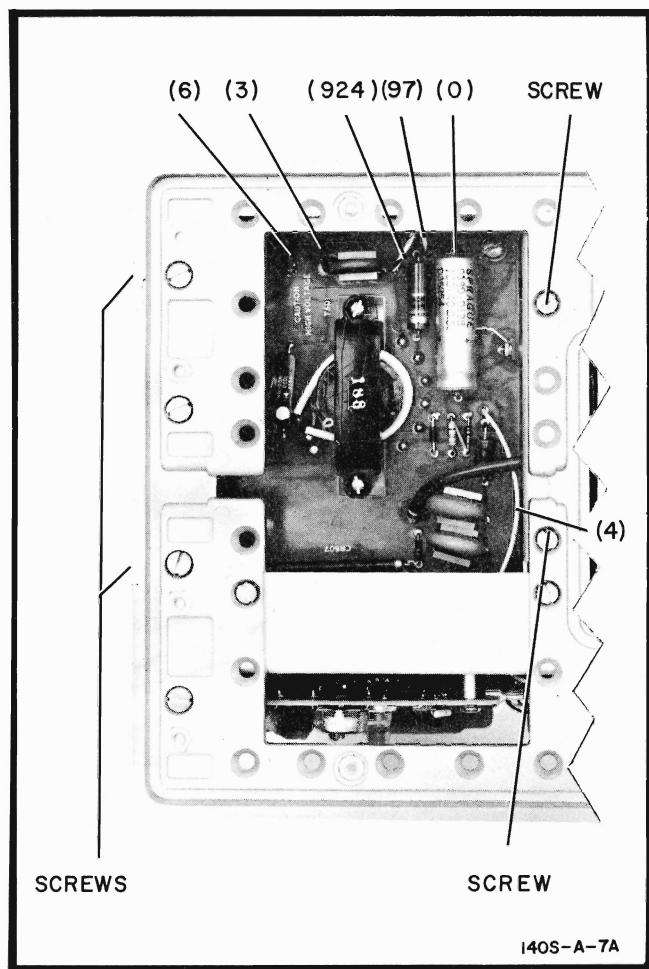

Figure 5-4. High Voltage Deck Removal
**5-52. HV DECK REMOVAL AND REPLACEMENT.** Most of the components on the high voltage deck can be replaced without removing the assembly. Other components can be removed and replaced by moving the deck part way out (without disconnecting wires). Refer to Figure 5-4 for location of mounting screws and wire identification; use the following procedure for removing the high voltage deck.
b. Disconnect the 6 wires from the board and remove the 4 mounting screws; see Figure 5-4 for wire and screw identification.